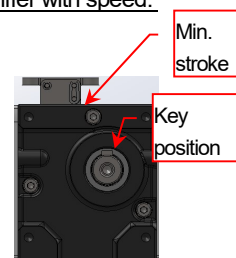

Fig. 5
23. When mounting from the bottom of the drive section, the input shaft keyway will usually face upward at the minimum stroke (see Fig. 5). However, when used synchronously there may be some difference due to backlash and other individual differences. Provide separate equipment to adjust phase when using synchronized ZCAs.